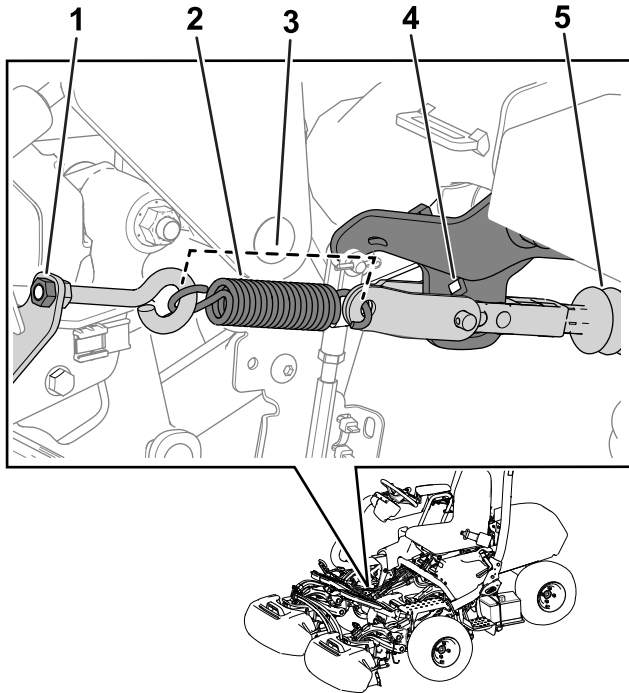

Figure 36
Note: Refer to Figure 36 for this procedure.
3. Prepare for operation by tightening the eyebolt nut so that the spring length is 11.4 cm (4.5 inches) when installed (Figure 36).